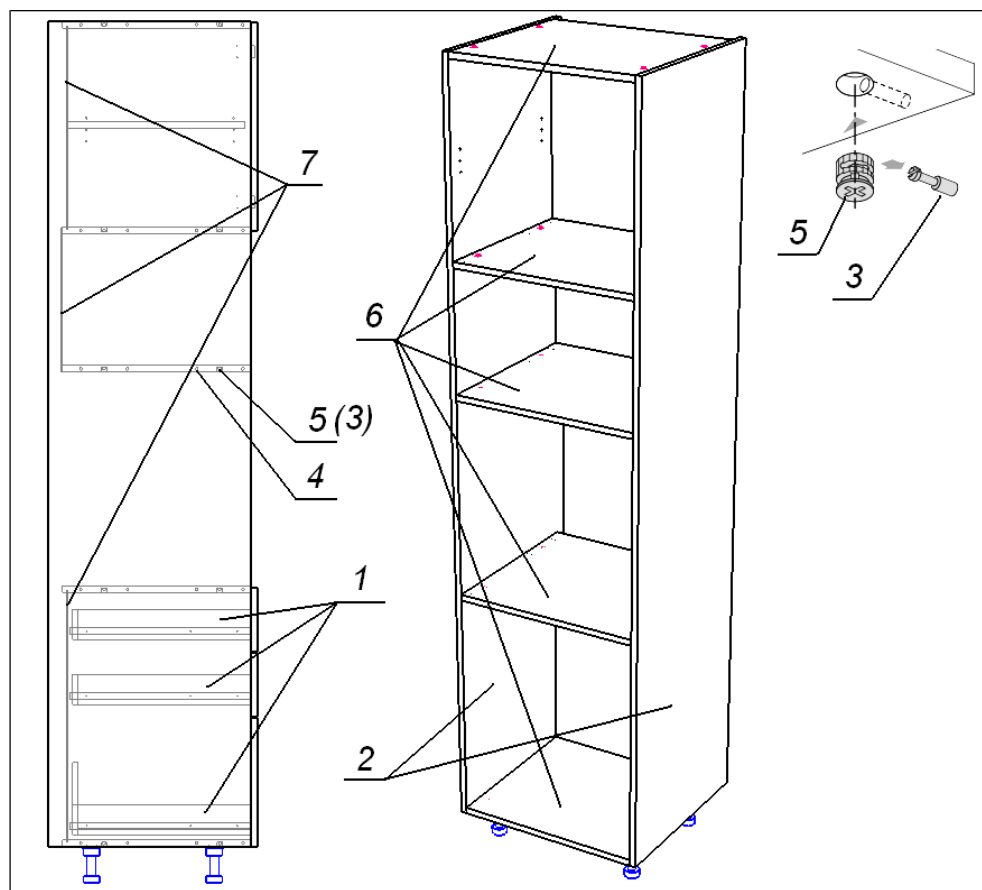

Fig. 43
6. Assembly of columns (high cabinets) X..., Y... (Fig. 43):